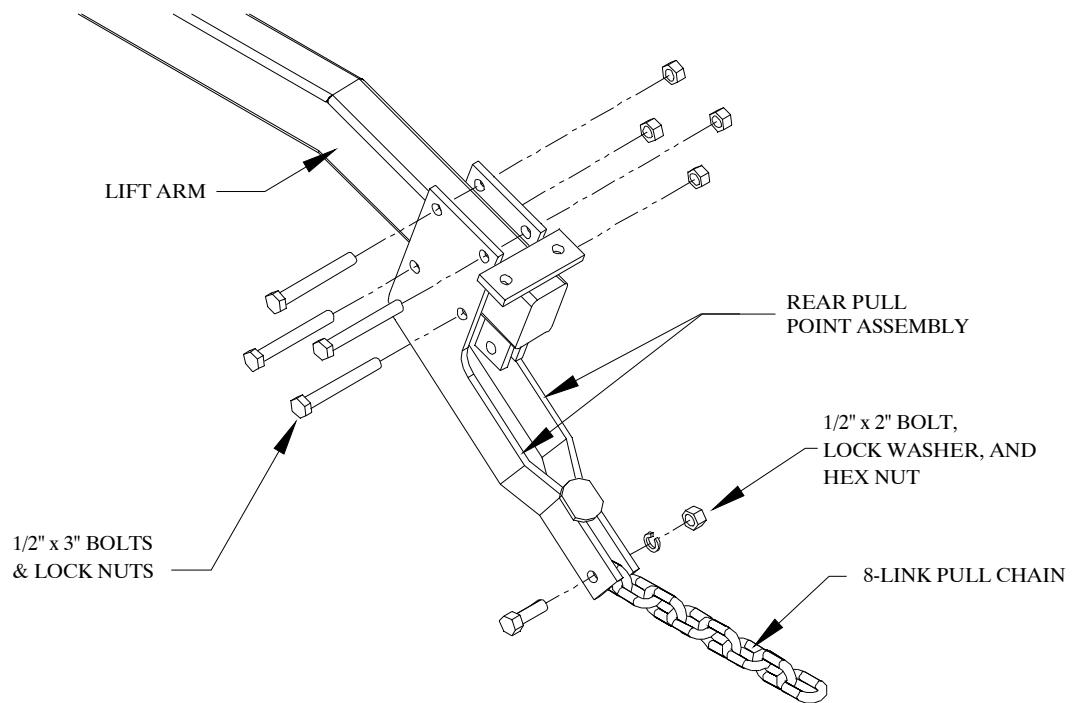

**Figure 11**
3. Bolt an 8 or 10-link pull chain in between each of the lift arm pull points. (10-link for 8-bar harrow sections; 8-link for all other configurations.) Use  $\frac{1}{2}$ " x 2" bolts, lock washers, and hex nuts. Refer to Figure 11.